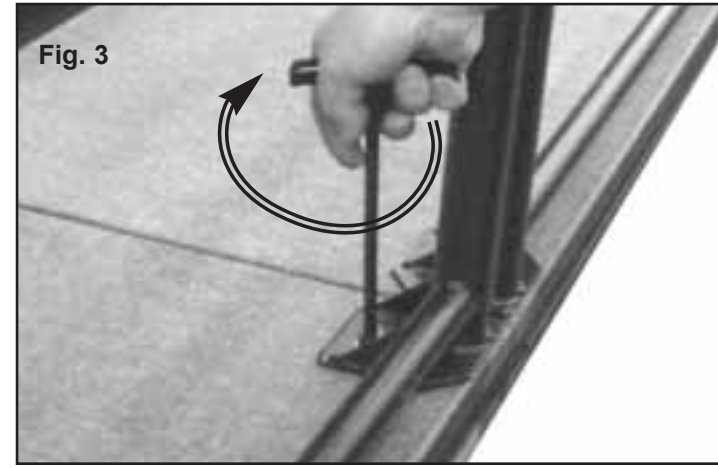

Fig. 3
5. Using the T-handle wrench provided, tighten the guardrail bolt firmly. (See Fig. 3)
2. Grasp the ramp leg at the cross bar and lift until the caster locking pins engage. (See Fig. 3)